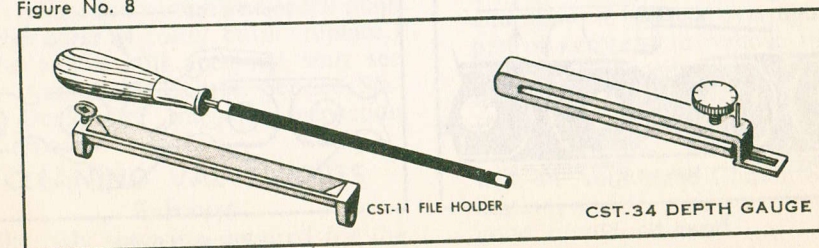

Figure No. 9
- a. A 1/4" round (not tapered) file. Clinton dealers stock the file handle, holder with guide marks and correct file. Ask for CST-11. (See Figure No. 9)
- c. Depth gauge (CST-34) with adjustable dial for determining clearance. (See Figure No. 9)